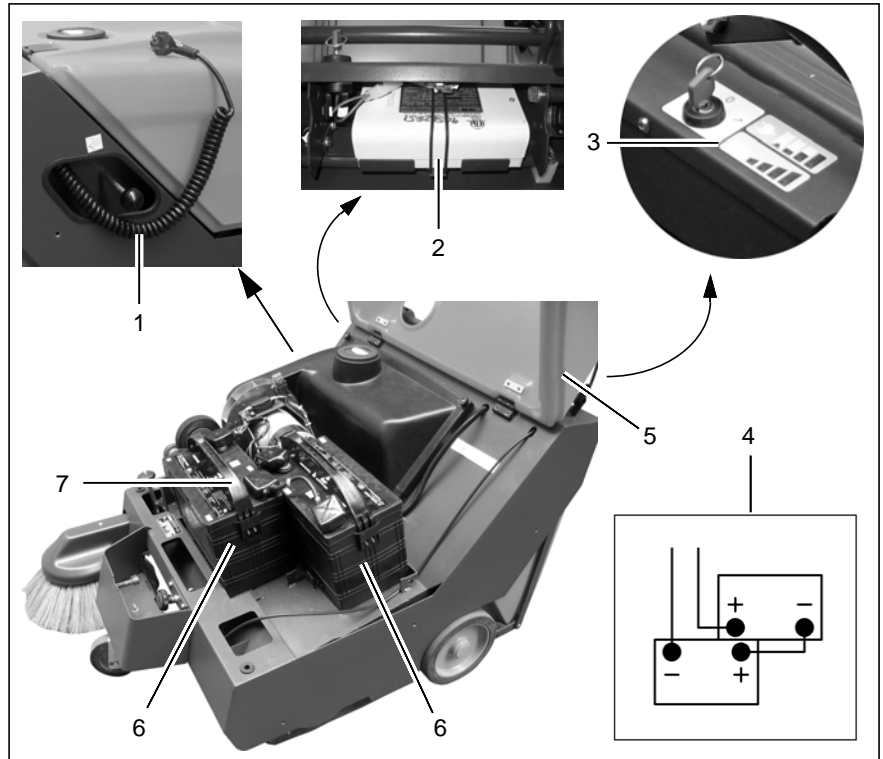

Fig. 15
During operation, the battery discharge indicator in the operating panel (Fig. 15/3) indicates the discharge status of the batteries, refer to Section 3.2.2, Section "Battery discharge status (Fig. 10/3)". The batteries must be charged immediately the red LED lights up. The batteries (Fig. 15/6) are recharged using the integrated on-board charger (Fig. 15/2):
2. Remove the charger cable (Fig. 15/1) from the recess on the right-hand side of the machine.
3. Plug the charger cable (Fig. 15/1) in a 230 V power outlet.
While the battery is charging, the charge control indicator lights up in the operating panel (Fig. 15/3), refer to Section 3.2.2, Section "Charge control indicator (Fig. 10/2)".
1. Unlock the hood (Fig. 15/5) using a square wrench and open the hood (Fig. 15/5).
2. Disconnect the negative cable from the batteries (Fig. 15/6).
3. Disconnect the positive cable from the batteries (Fig. 15/6).
4. Remove the connection cable from between the two batteries (Fig. 15/6).
6. Take hold of the batteries (Fig. 15/6) by their handles (Fig. 15/7) and lift them out.
2. Take hold of the batteries (Fig. 15/6) by their handles (Fig. 15/7) and install them at their prescribed positions in the machine, refer to Figure 15.
4. Connect the two batteries (Fig. 15/6) using the connection cable in accordance with the connection diagram (Fig. 15/4).
5. Connect the negative cable of the machine to the batteries (Fig. 15/6) installed in the machine.
6. Connect the positive cable of the machine to the batteries (Fig. 15/6) installed in the machine, refer to Section 2.1.4.
7. Close the hood (Fig. 15/5) so that it audibly locks.